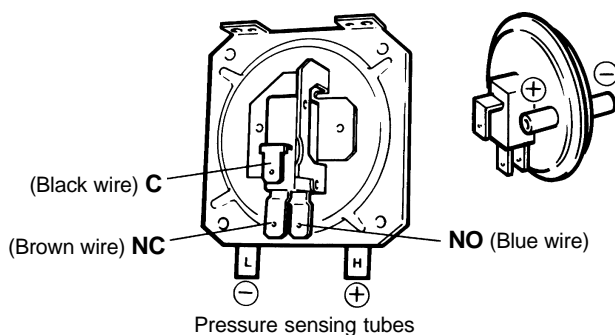

Fig. 22
8.10 AIR PRESSURE SWITCH - Fig. 22
4. Connect the wiring to the new switch, black to C, brown to NC, blue to NO and reconnect the pressure tubes (see Fig. 22).